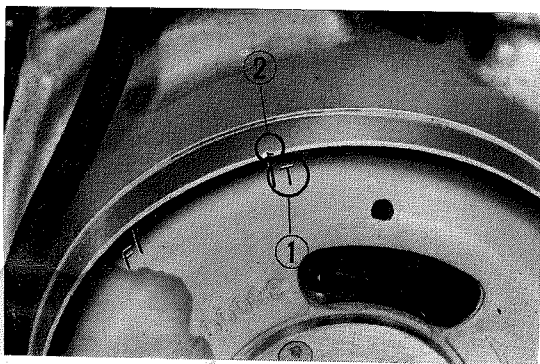

Fig. 1 "T" mark alignment
3. Rotate the flywheel counterclockwise until the "T" mark on the flywheel is aligned with the timing index mark on the crankcase flange and the piston is the compression stroke. The piston in the compression stroke can be determined by feeling rocker arms for clearance. (Fig. 1)